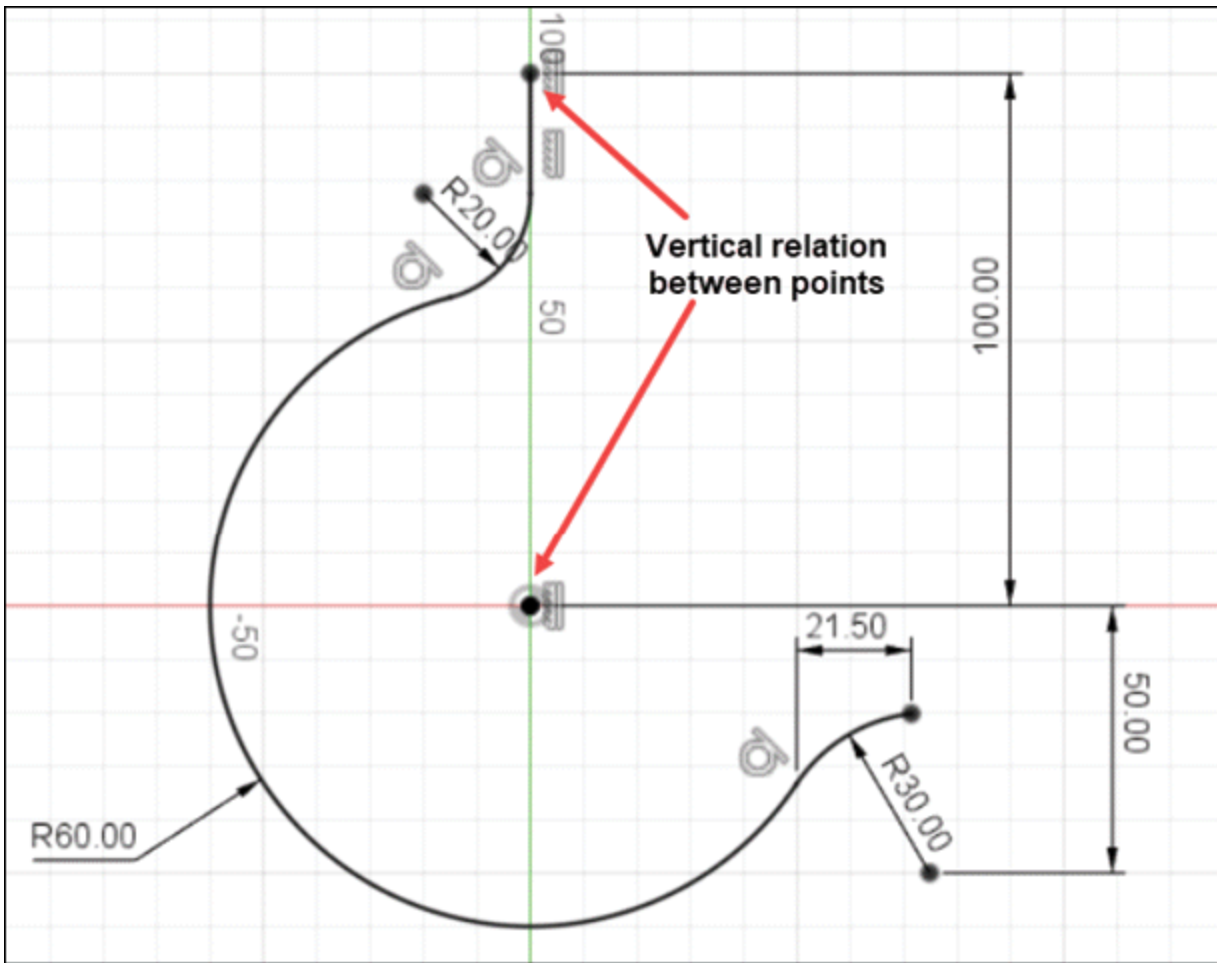

Figure-95. Dimensioning sketch
- Click on the **Sketch Dimension** tool from **Ribbon** and apply the dimensions as shown in Figure-95. Note that you can toggle the diameter dimension to radius dimension using shortcut menu.